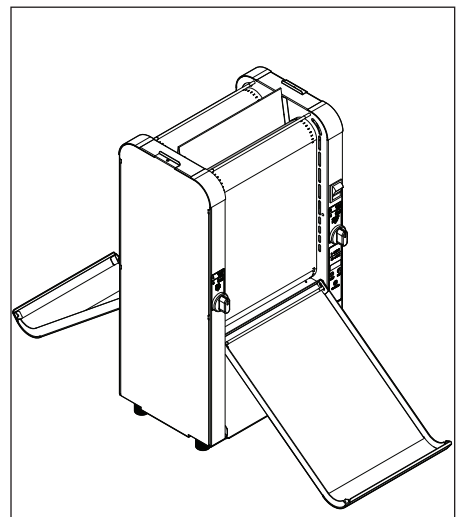

Figure 8. Open Covers
1. Open the front and rear Conveyor Covers (Figure 8)